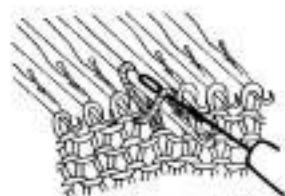

Fig. 52-3
3. Holding up the loose strand of yarn with the tool push the needle forward until the loop passes behind the latch and leave the loose strand in the hook. (Fig. 52-3)